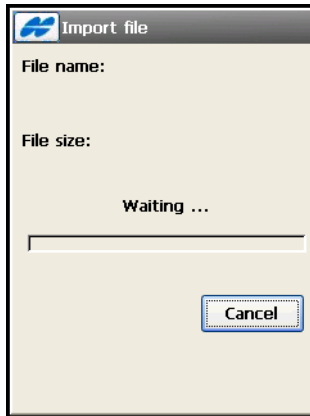

Figure 5-15. Import File
- The ok  button opens the **Import File** screen reflecting import status to the selected directory (Figure 5-15)